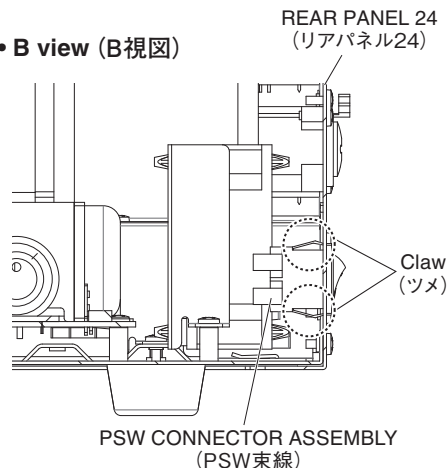

Fig. 13 (図13)
- A-7-8-1 Hold down the claws of the PSW connector assembly from inside, and remove the PSW connector assembly from the outside of the rear panel 24. (Fig. 13)
(図 13)